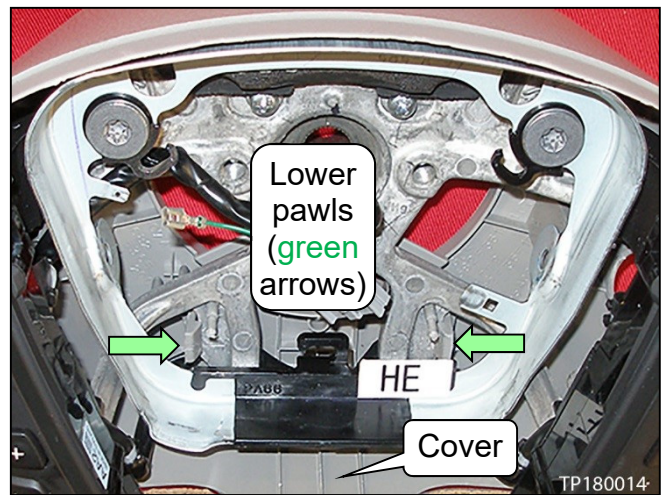

Figure 3
6. Unclip one of the upper pawls with a long thin screwdriver or other suitable tool (see Figure 3, Figure 4, and Figure 5).